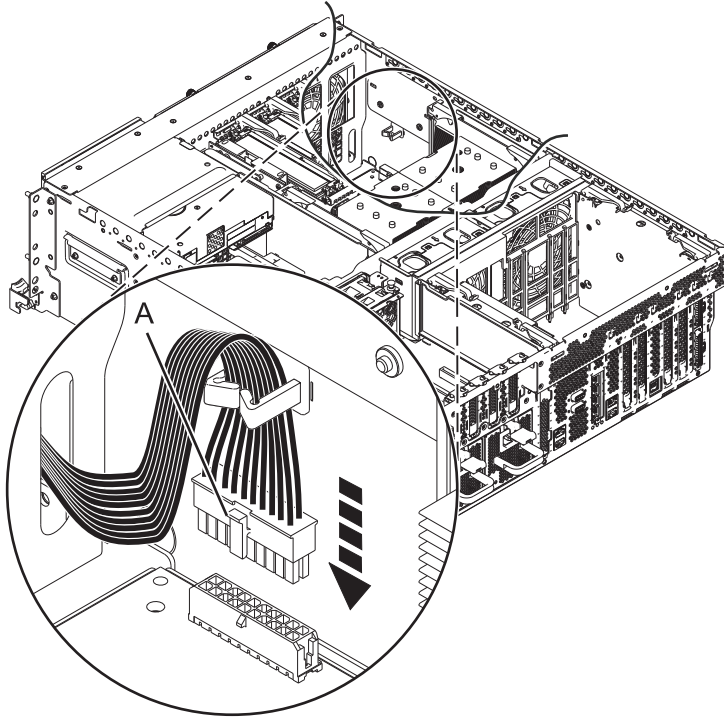

Figure 15. Connecting the front fan cable
6. Connect the front fan cable. See Figure 15 on page 19.